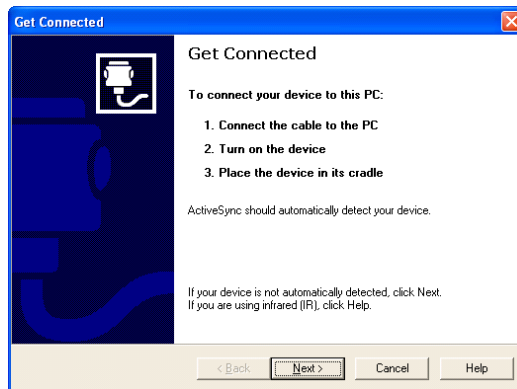

Figure 5.6
1. Now go back to the procedure **Install ActiveSync to Your PC** in Chapter 5.2.1 “Via Direct IrDA”. Click **Next >** button in Figure 5.6.